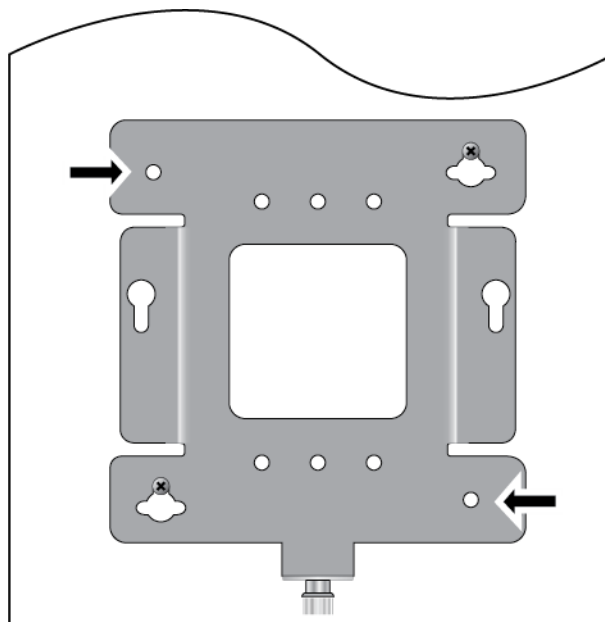

Figure 15. Pre-Drill Holes on Mounting Bracket
8. To secure the mounting bracket, pre-drill holes through the two bracket mounting holes opposite the key-hole slots. See Figure 15.